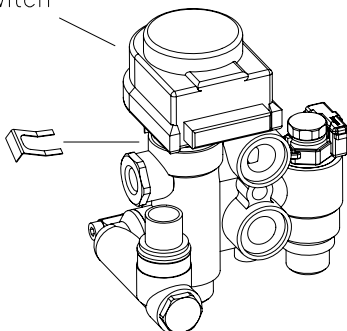

Fig.50
8.10 TO REMOVE/REPLACE DIVERTER VALVE MOTOR (Fig. 50).